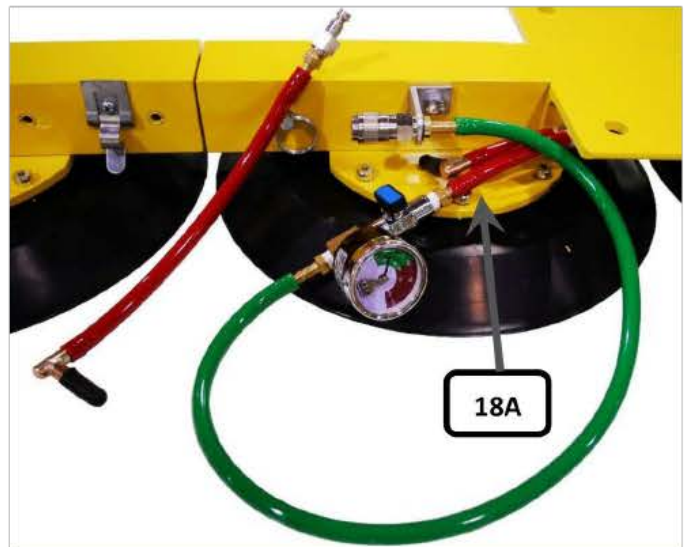

FIGURE 18
Remove the hose that attaches the Y-fitting (or pad tee fitting) to the quick connect from the quick connect and attach the ball valve (valve end) to this hose, **18A**. Attach a piece of additional hose to the quick connect and attach the other end of this hose to the end of the ball valve with the vacuum gauge. See **FIGURE 18**.
51) To test the quick connect when connected, first remove the hose connected to the male quick connect and cap off the barbed fitting. Attach the male quick connect to the female coupler and repeat the vacuum test using the same set up shown in **FIGURE 18** but with the male connector capped off and attached, as shown in **FIGURE 19**.